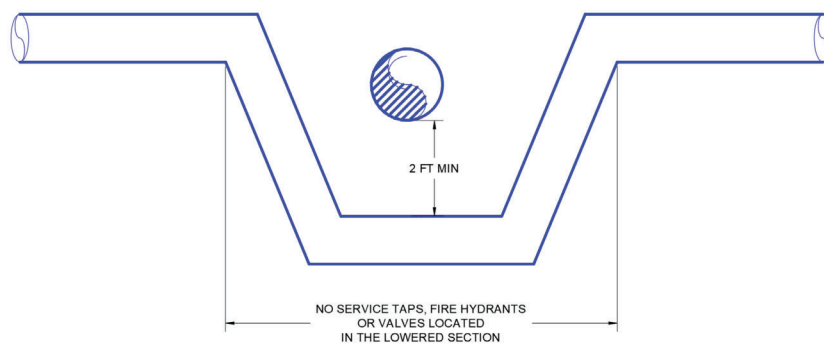

Figure 8- Lowering
- 3.17. Water service line(s), valve(s), and/or fire hydrant(s) must **NOT** be connected to the water main in the lowering portion of the water main crossing, unless expressly noted and approved by the Private Development Manager. See Figure 8.